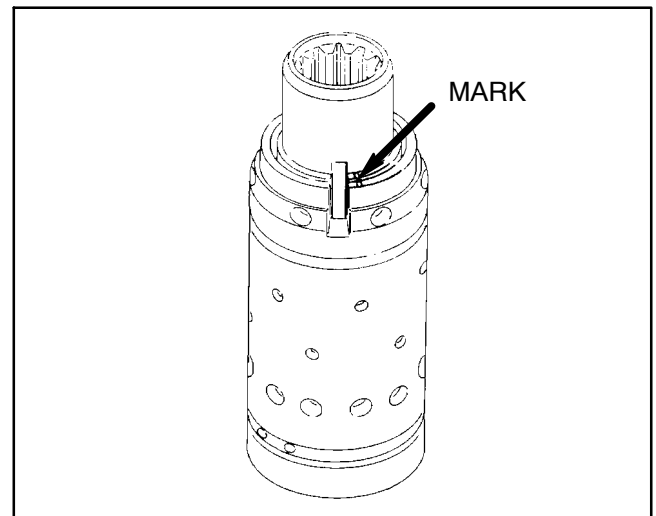

Figure 70
**Note:** There is a small match mark on both the spool and sleeve near one of the slots for the spring. If the mark is not visible, match mark both the sleeve and spool before removing the springs (Fig. 70).
3. Install spool into the sleeve. Make sure match marks on each part are aligned. Press springs together and push them into slot in the sleeve. Line up springs and center them (Fig. 70 and 71).